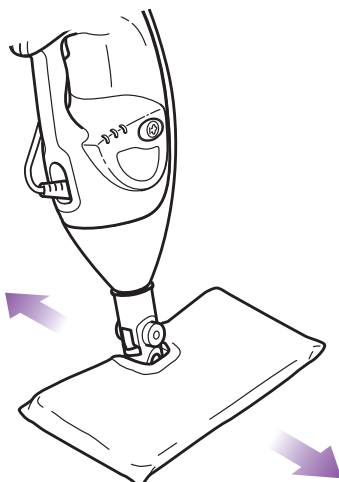

fig. 11
- 4 Clean your floors with a forward and backward motion. (fig. 11)